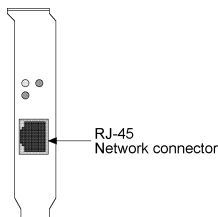

Figure 3-4 Network Connector
2. Align the RJ-45 plug on the end of the UTP cable with the notch on the adapter's connector and insert it into the adapter connector as shown in Figure 3-4.